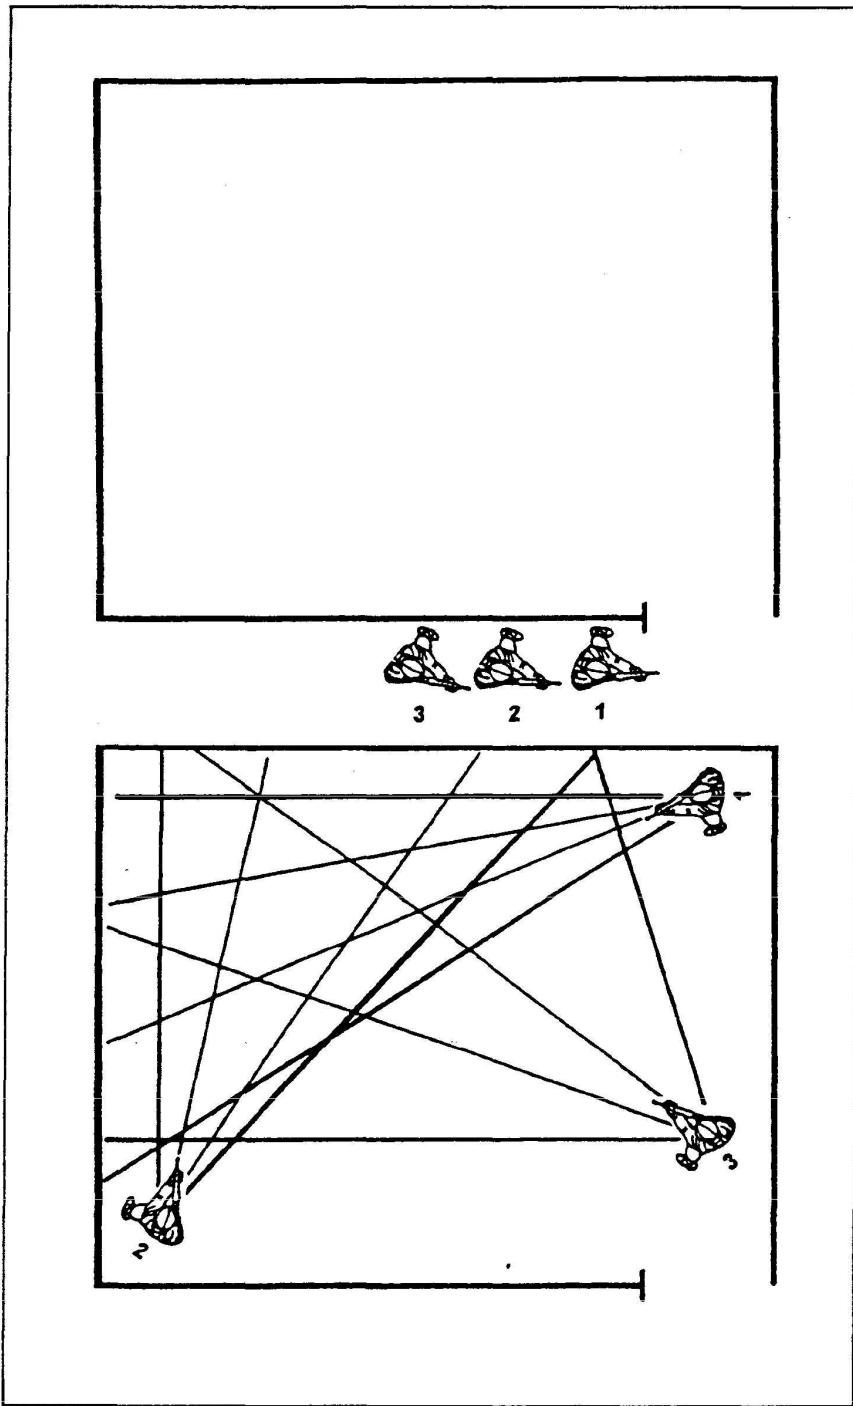

**Figure K-12. Points of domination and sectors of fire
f. When full four-man teams are not available for room clearing, three-man and two-man teams can be used. Figures K-10 and K-11 show the paths, points of domination, and sectors of fire for a three-man clearing team. Figures K-12 and K-13 show the same thing for a two-man team.